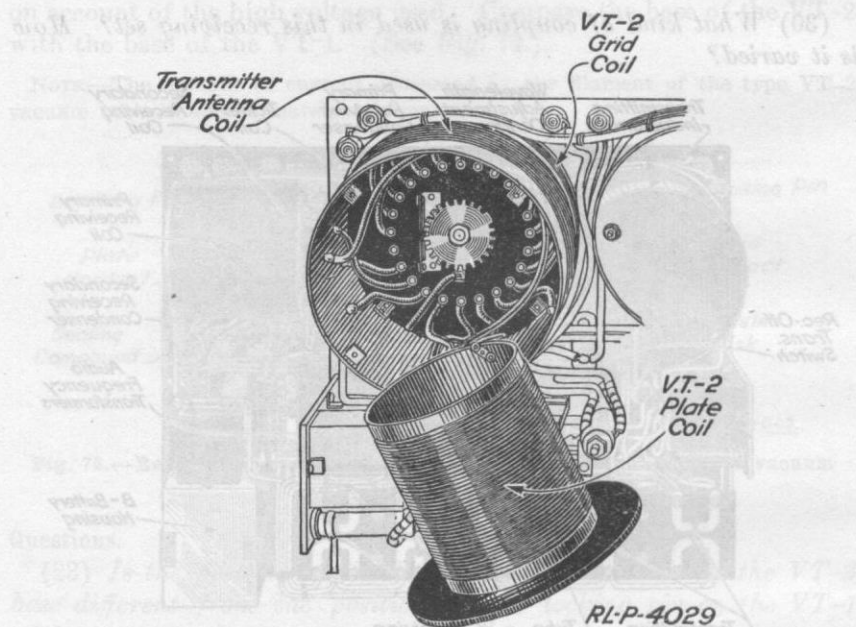

Fig. 74.—Details of the transmitting inductance of the SCR-79-A set.
4. Remove the four screws nearest the center of the rear of the transmitting inductance and lift out the end. (See Fig. 74.)